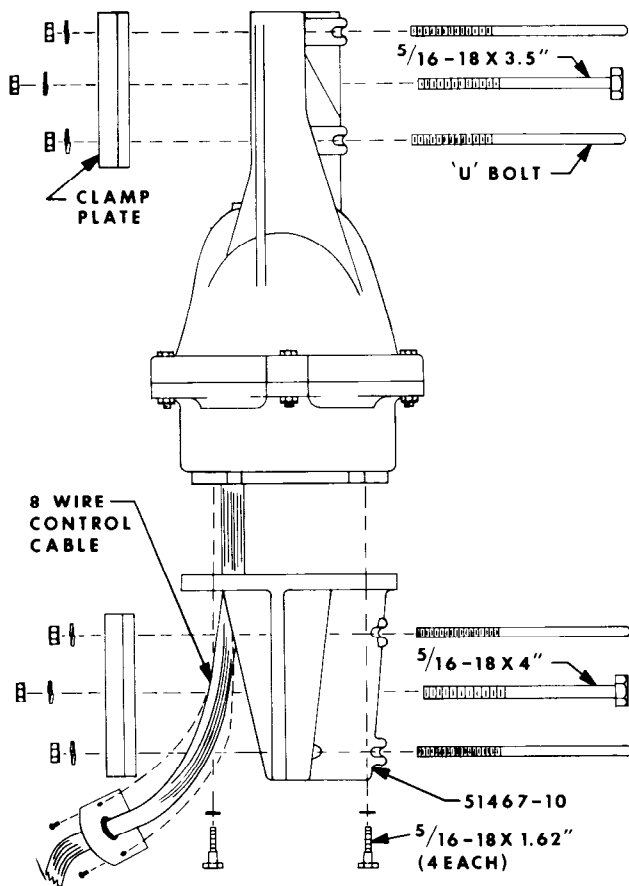

Figure 5
Referring to Figures 5, 6 and 7, an outside tower or pole mount is made in the same manner except that the rotator is fastened by four (4) bolts only (not six) to the Lower Mast Support, PN 51467-10. Since the eccentricity of the rotator turning in reference to the tower is no longer important, the shimming procedure is not necessary. The four (4) screws must be torqued to the same specification and the 8-wire cable securely fastened. The lower mats should be pinned with the $\frac{5}{16}$ "-18 x 4" bolt as shown in Figure 5.
The stock Tailtwister T²X is intended to mount on the base plate inside of the tower. However, in some instances, outside tower or mast mounting is desired as per Figures 5 and 7. This kit, Part Number 51467-10, contains a heavy-duty lower mast support and the necessary hardware to facilitate mounting the T²X on top of a tower stub or mast.